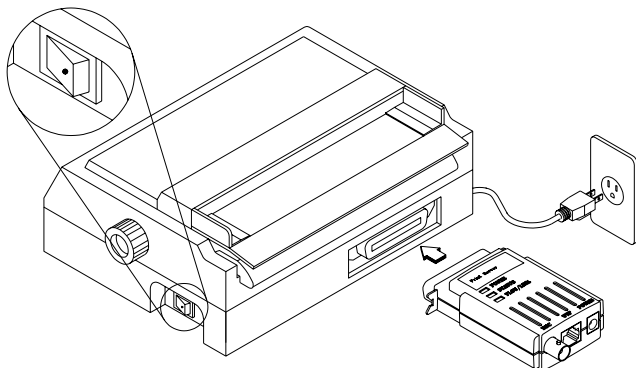

Figure 2-1
2. Attach the print server directly to the printer's Centronics port as shown in Figure 2-1.